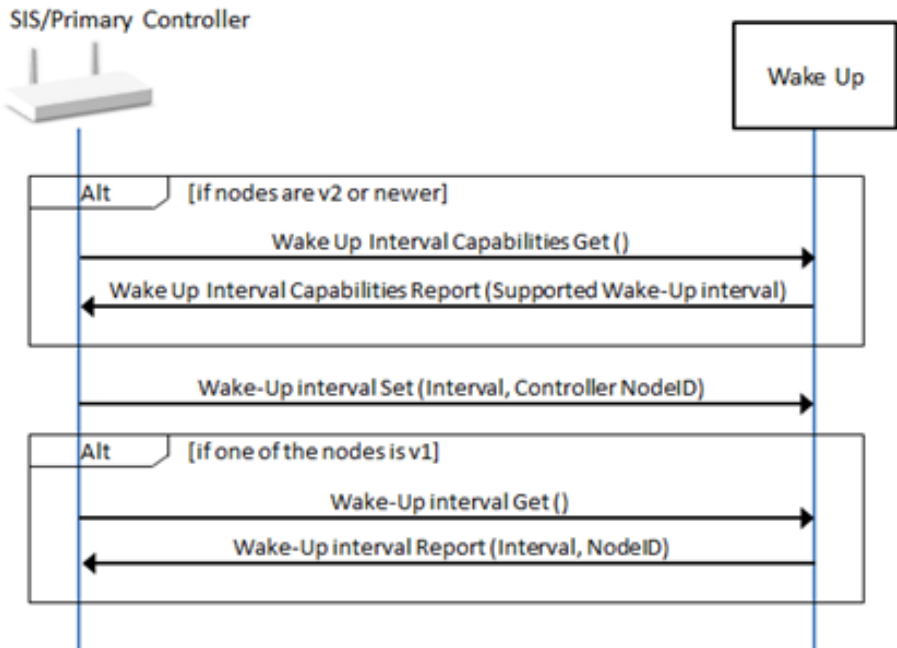

Figure 6.37: Wake Up Command Class interview
- If the controlling node has the SIS or primary controller role in a network, it MUST perform a supporting node interview according to Figure 6.37.